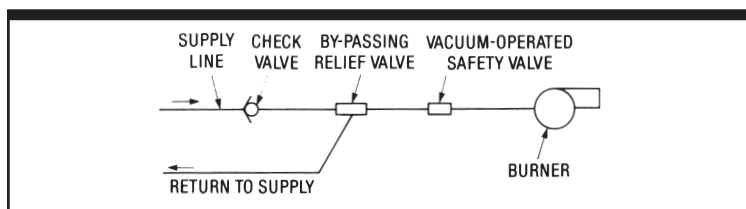

FIGURE 14 BY-PASSING RELIEF VALVE INSTALLATION
- a. Install relief valves in problem areas (see Figure 14).